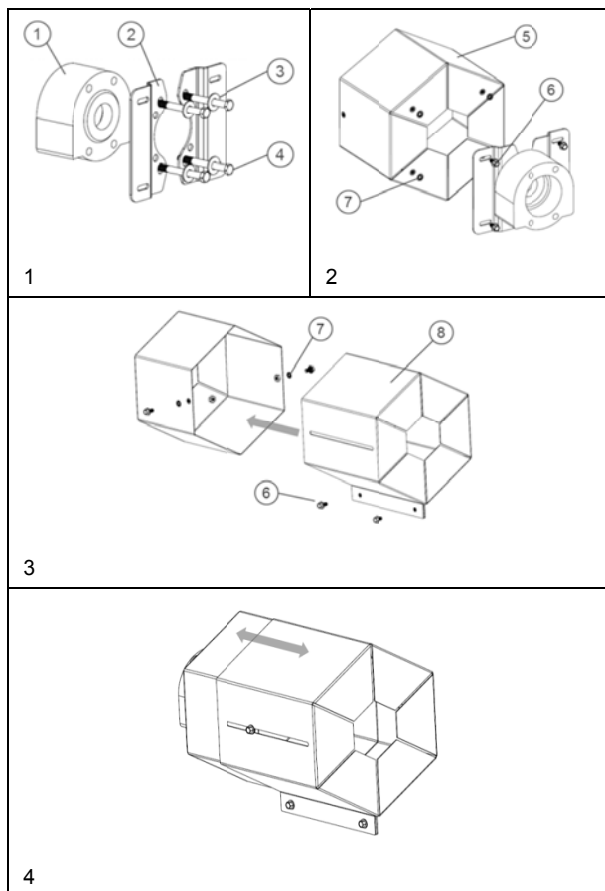

Fig. 19 Coupling Guard
1. Identify the parts of the coupling guard, see Fig. 19.
2. Unfasten the (4) cap screws, [item 6], that secure the outer guard, [item 8], to the inner guard, [item 5].
3. Spread the outer guard, [item 8], and pull it off the inner guard, [item 5].
4. Remove the (4) cap screws, [item 6], that holds the inner guard, [item 5], to the support brackets, [item 2].
5. Spread the inner guard, [item 5], and pull it over the coupling.
2. Attach the support brackets, [item 3], to the inboard bearing housing of the pump, [item 1], using (4) cap screws, [item 4] and (4) flat washers, [item 3]; (if a new installation). See step 1.
3. Spread the inner guard, [item 5]; and place it over the coupling.
4. Attach the inner guard, [item 5], to the support brackets, [item 2]; using (4) cap screws, [item 6], and (4) screw retainers, [item 7]. See step 2.
5. Spread the outer guard, [item 8]; and place it over the inner guard, [item 5]. See step 3.
6. Position the outer guard, [item 8] so that its slots line up with the hardware on the inner guard, [item 5]. See step 4.
7. Attach the outer guard, [item 8], to the inner guard, [item 5]; using (4) cap screws, [item 6], and (4) screw retainers, [item 7]. Do not tighten so as to allow the outer guard to slide over the inner guard. See step 3.
8. Slide the outer guard, [item 8], towards the motor so that there is less than a 1/4 in. [6.35 mm] of the motor shaft exposed. See step 4.
9. Holding the outer guard in this position, tighten the (4) cap screws.